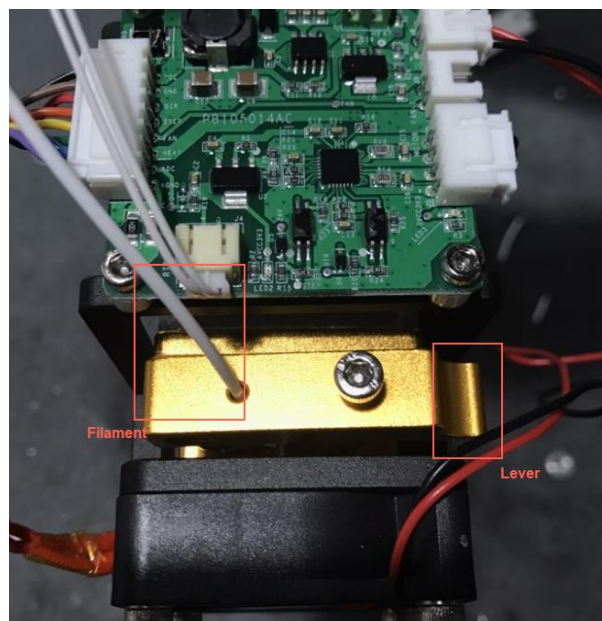
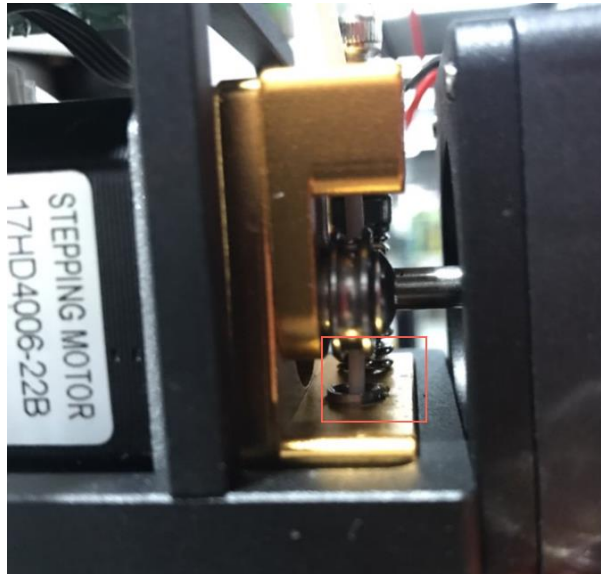

Figure 3.7 Push down the filament (1)
Figure 3.8 Push down the filament (2)
- Step 3** Install 3D printing filament. Please prepare the filament. Press down the lever on the extruder by hand, and push down the filament to the bottom via pulley, as shown in Figure 3.7 and Figure 3.8.